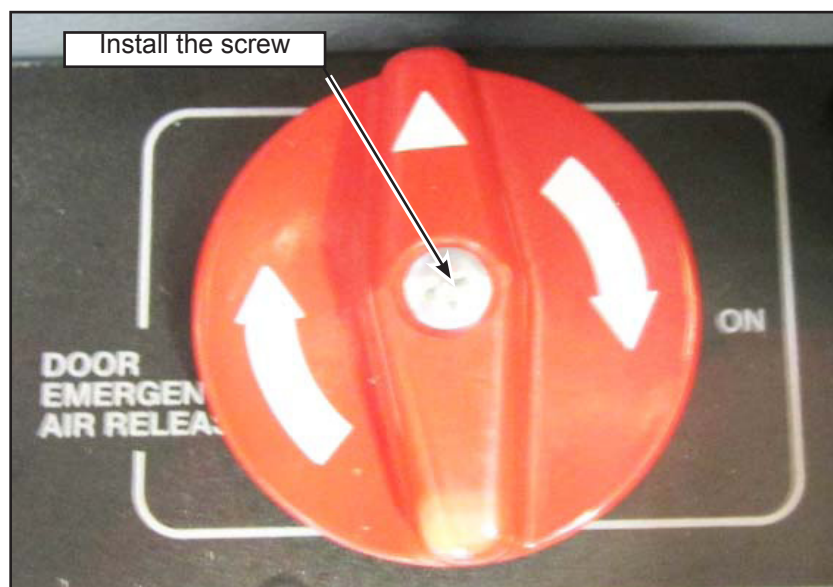

Figure 11 - Install the Screw
1.12. Install the screw that secures the valve handle (see Figure 11).